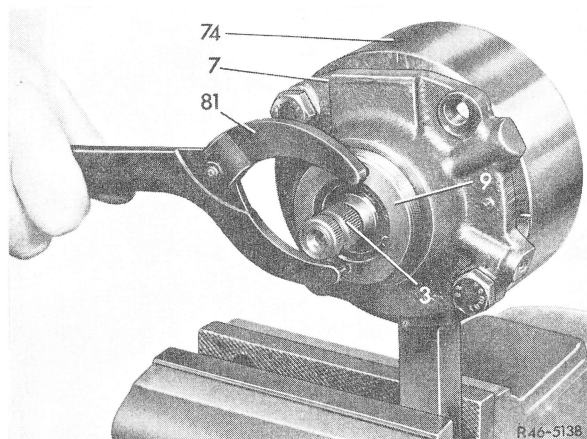

Fig. 16
16 Unscrew bearing insert (9) from bearing cap (7) by means of hinged pin spanner (81) (Fig. 16).